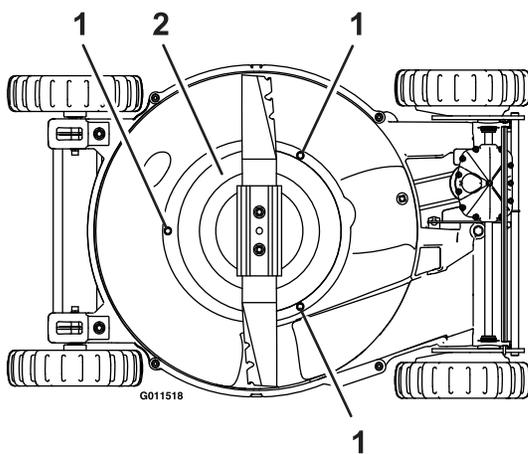

Figure 34
6. Remove the three screws holding the BBC shield onto the unit (see Figure 34).